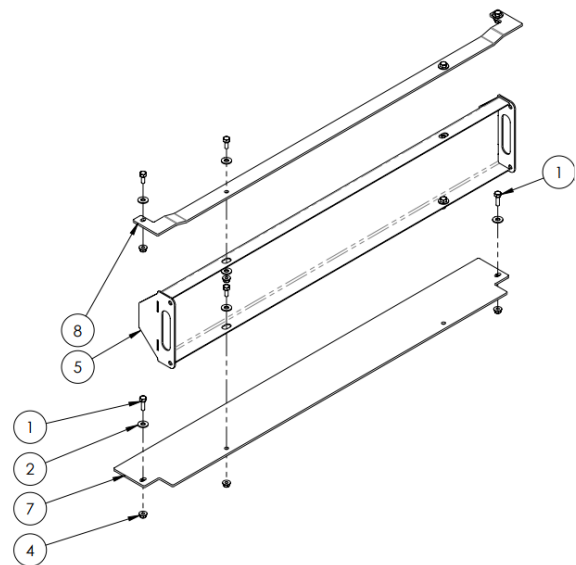

Figure 19: LH end shield assembly
- ii. Line up the holes on the end shield cap (8) and filler (7) with the conveyor. Fasten the cap (8) and clean-out door (5) to the conveyor using 6 of  $\frac{5}{16}$ " x  $\frac{3}{4}$ " hex bolts,  $\frac{5}{16}$ " flat washers and  $\frac{5}{16}$ " flange lock nuts. Fasten the sides of the filler (7) using 2 of  $\frac{5}{16}$ " x 1" hex bolts,  $\frac{5}{16}$ " flat washers and  $\frac{5}{16}$ " flange lock nuts (1, 2, 4), see Figure 19.